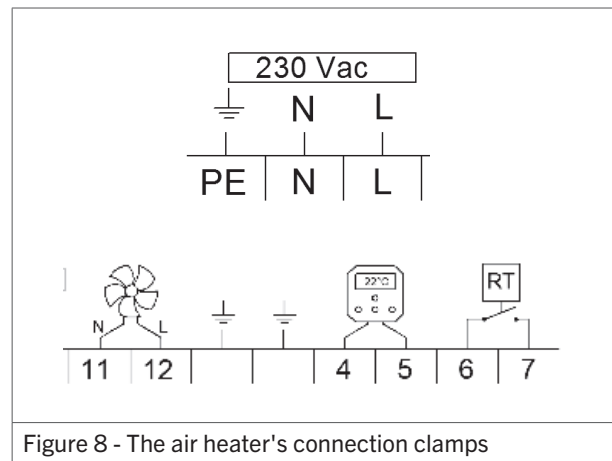

Figure 8 - The air heater's connection clamps
- Connect the wires of the mains cable to the clamps in the connection box (figure 8).